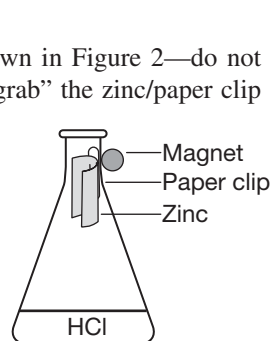

Figure 2.
8. Carefully hold the zinc (w/paper clip) inside the neck of the flask as shown in Figure 2—do not drop it into the flask! Use a small magnet on the outside of the flask to “grab” the zinc/paper clip and hold it there.